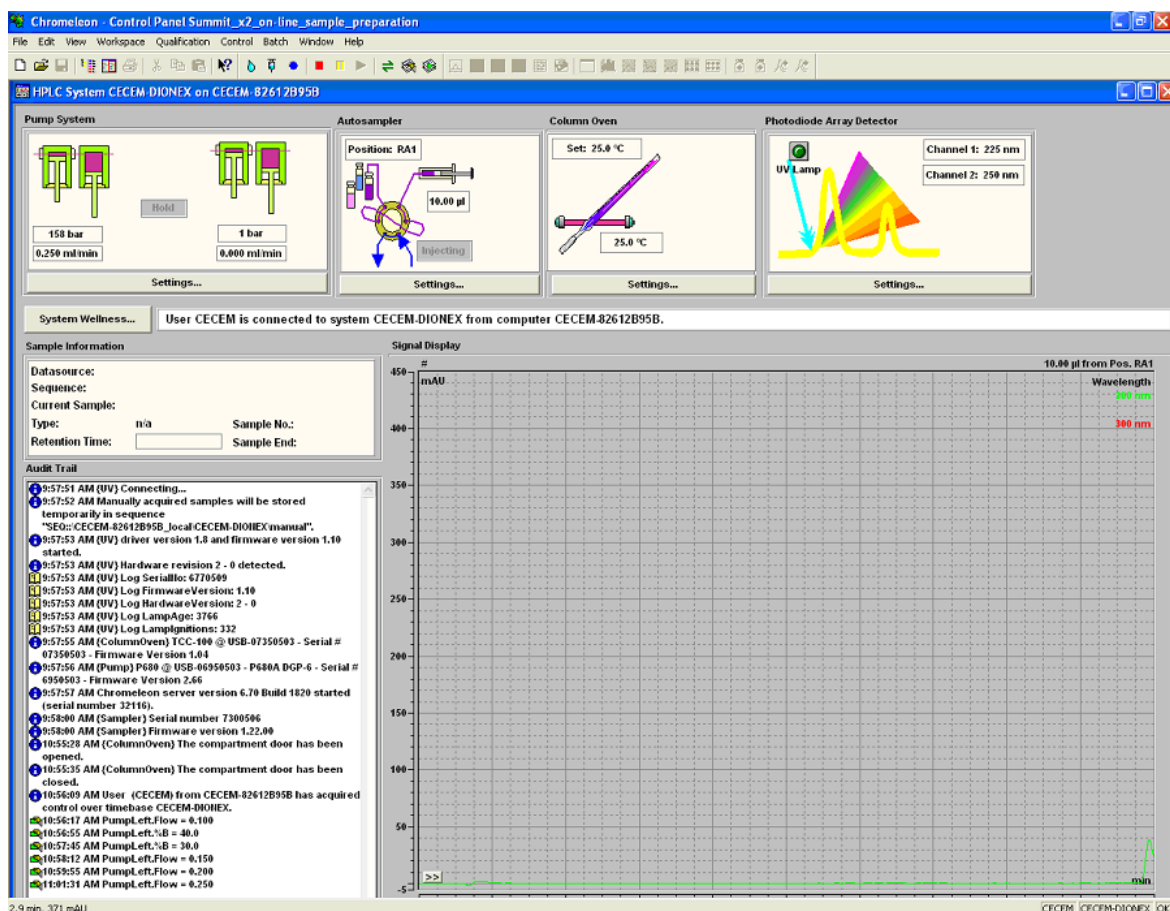

Figure 8. Control panel window.
- 6.2.2.8. Open the default Control Panel. From the Browser window, open Dionex Templates > Panels directory and select the control panel that corresponds to your system. Double-click to open the panel. Alternatively, you can copy one of the mostly used control panel from the existing directories. Open one of the folders in CECM-8261J2B95B_local\CECEM-DIONEX, copy the files *panel.autosampler.pan* and *summit_x2_on-line_sample_preparation.pan* and paste in your folder. Double-click on *summit_x2_on-line_sample_preparation.pan* to open the control panel. The control panel window shown in Figure 8 is displayed. Toggle between the Browser and the Control Panel window by pressing CTRL + TAB.